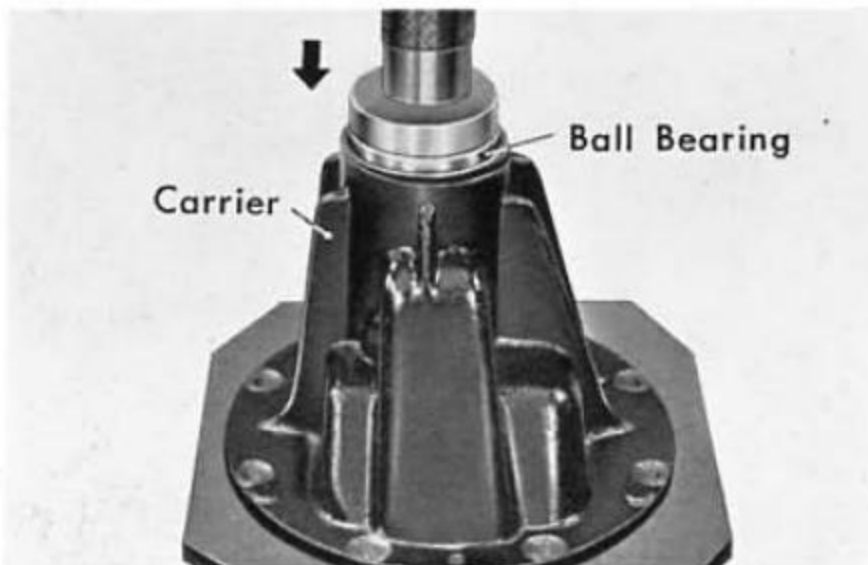

Fig. 8C-14
12. Install the side bearing adjusting nuts on the carrier, torque the adjuster with the side bearing adjuster wrench (Fig. 8C-11).